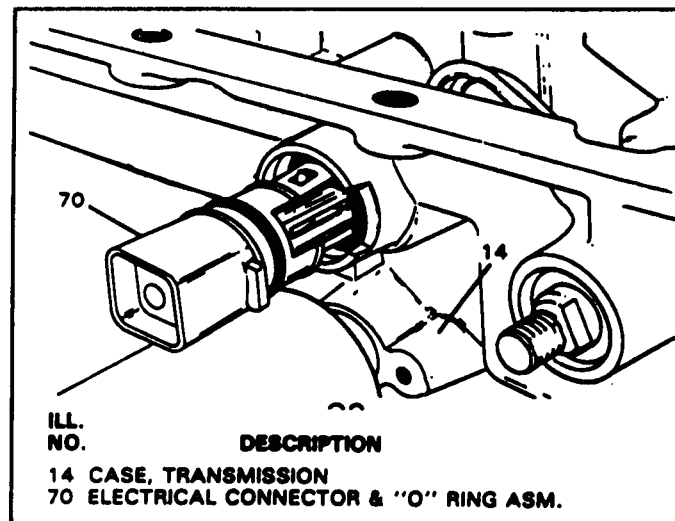

Figure 145
10. Install new "O" ring on the case connector and lubricate with small amount of "Trans-Jel" (See Figure 145).
11. Install the case connector into the case bore, as shown in Figure 145, until fully seated.